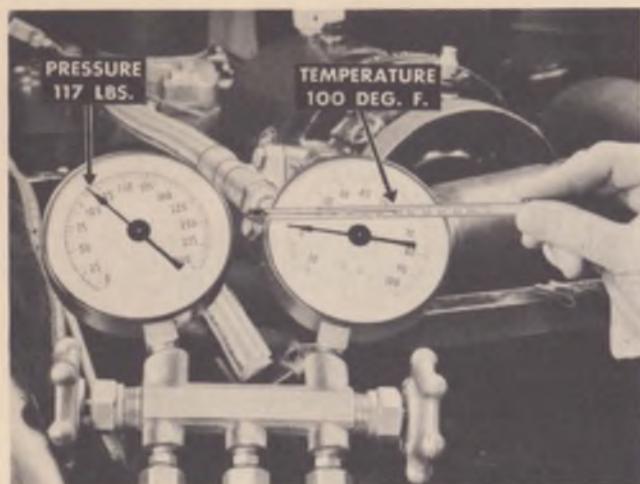

Fig. 12
8. Allow the system to settle in temperature, observing the high pressure gauge and the thermometer. See Figure 12.